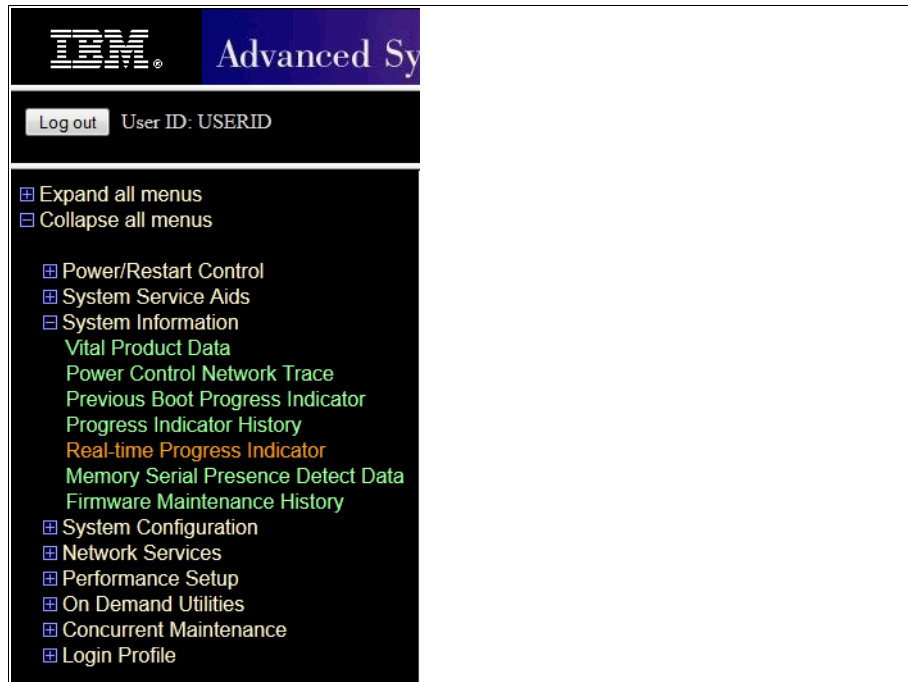

Figure 7-145 Starting the ASMI Real-time Progress Indicator
8. The monitoring of the startup progress codes can be monitored in real time from the ASMI. In the navigation area, expand the section on **System Information** and click **Real-time Progress Indicator** as shown in Figure 7-145.